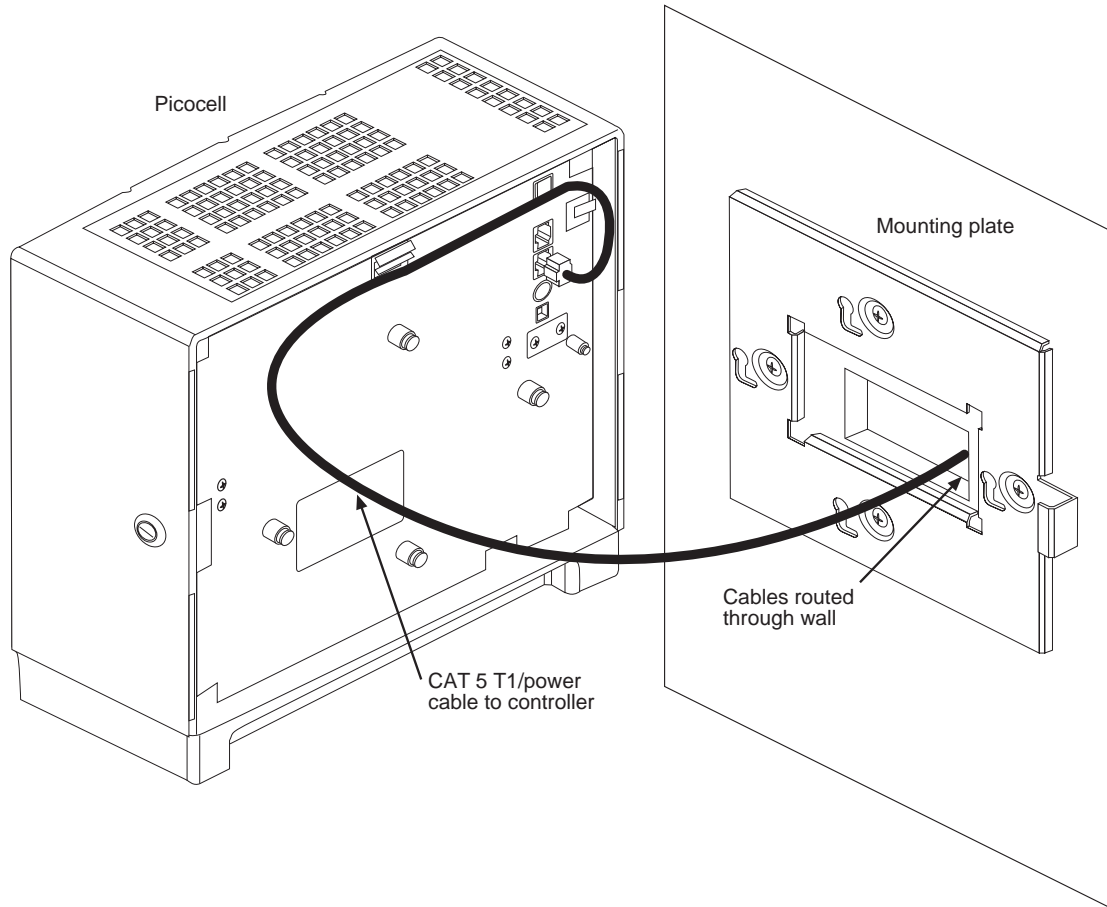

Figure 7-5 Cabling the picocell
3. Route the T1/power cable through the opening in the wall mounting plate (as shown in Figure 7-5).